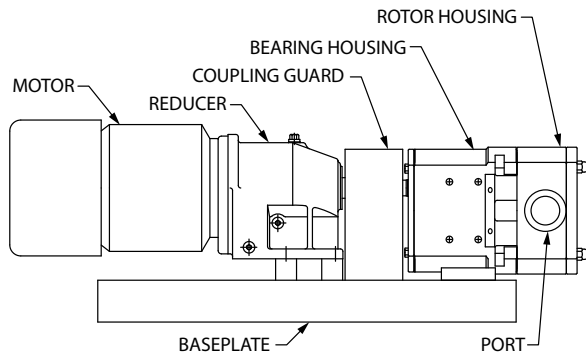

fig. 1.1
**UNIBLOC-PD** is a positive displacement rotary lobe pump. It may be supplied with a drive unit (fig. 1.1) or without a drive unit (fig. 1.2). When supplied with a drive unit it is called **UNIBLOC-PD** assembly. Fig. 1.1 indicates various parts of an assembly. UNIBLOC-PD Models 600-677 can be supplied in 2 different series; 5000 series with stainless steel bearing housing or 3000 series with painted steel bearing housing. Each model can be mounted with the inlet and outlet ports in horizontal or vertical orientation. The orientation can be modified using either a foot for horizontal port orientation or a pedestal for vertical port orientation (fig. 1.3). Port orientation should be specified when ordering.